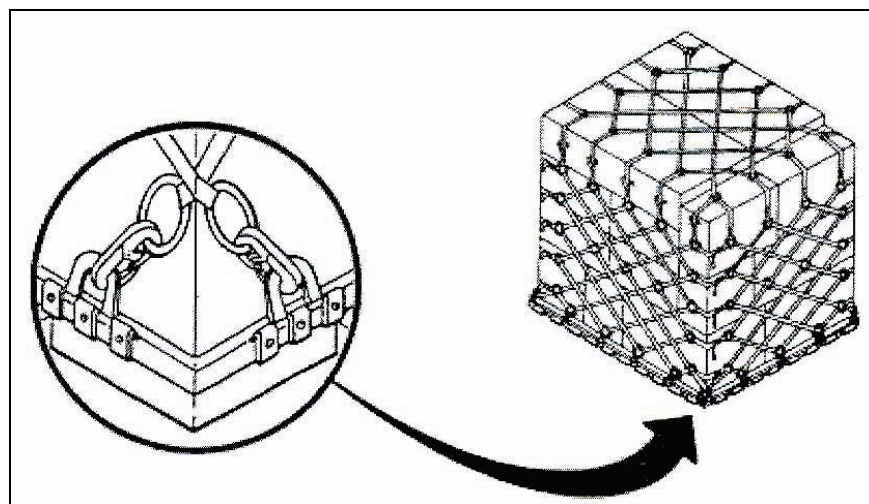

Figure 3-20. Securing the Ends of the Straps
- l. Secure the ends of the straps, tuck them in to ensure they will not become caught in the rail system when loading the pallet aboard the aircraft or in storage (see Figure 3-20).